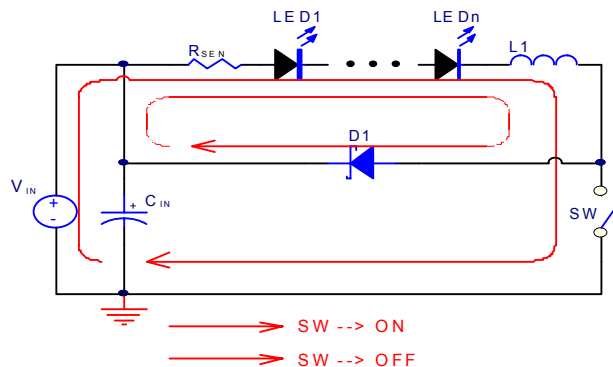

Figure 6 The sketch of power loop
10. When the SW is on/off, the direction of power loop should keep the same way to enhance the efficiency. The sketch is shown as figure 6.